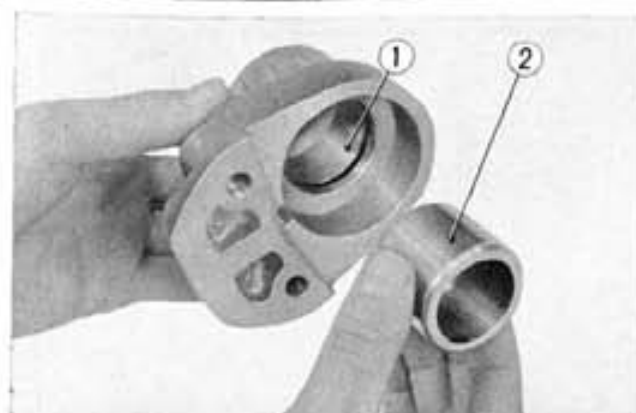

Fig. 14-5 ① Caliper A ② Piston
4. Remove the pad A, pad seat and cylinder piston from caliper A. (Fig. 14-5)